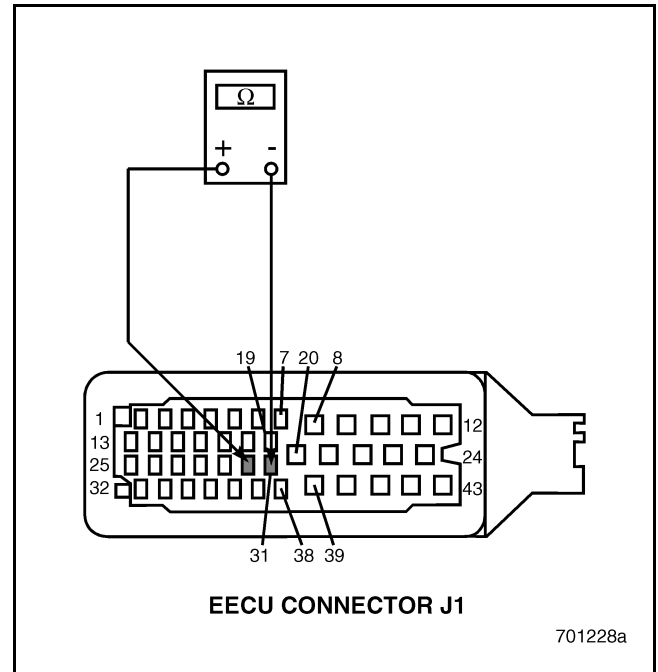

Figure 362
4. Measure the resistance between EECU connector J1 pins 30 and 31 (see Figure 362).